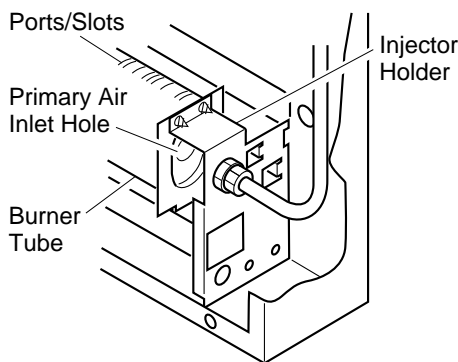

Figure 28 - Injector Holder On Outlet Burner Tube
2. Inspect burner, pilot, and primary air inlet holes on injector holder for dust and dirt (see Figure 28).